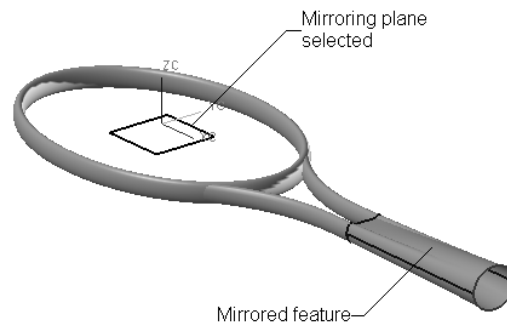

Figure 11-96 The resulting surface model after mirroring the surface
1. Mirror the studio surface using the XC-YC plane as the mirror plane. The resulting surface model is shown in Figure 11-96.